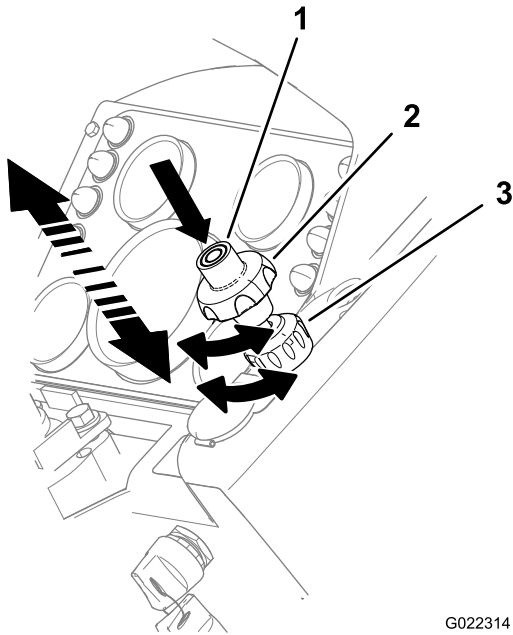

Figure 24
- To **increase** the engine speed, push the throttle center button while **pulling out** the throttle (Figure 24).